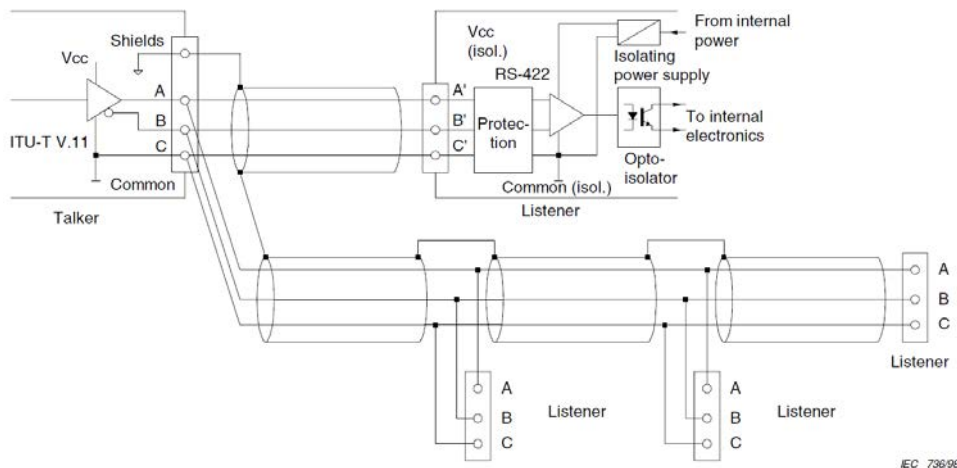

Figure 10: IEC 61162-2 Circuits
- One talker (Tx side, commonly a sensor such as GPS) may be connected to one or more listeners (Rx side, e.g. displays or computer systems such as ECDIS). The circuit looks as shown in *Figure 10: IEC 61162-2 Circuits* on page 17.